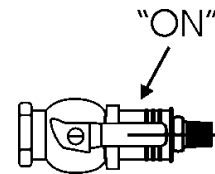

Fig. 5-6
- Turn handle to “ON” position to turn gas on. (Fig. 5-6)